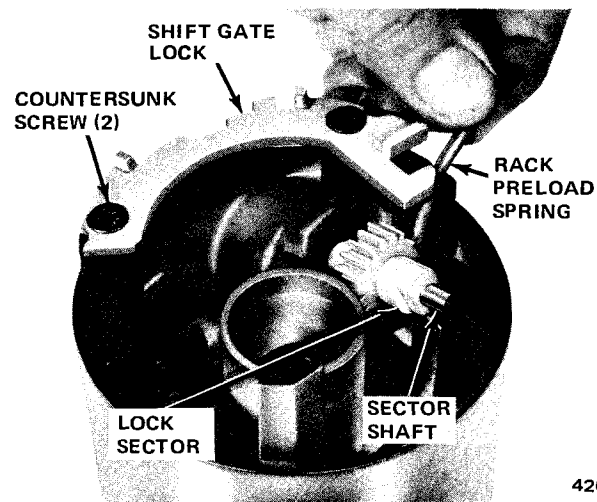

Fig. 2J-28 Housing Components
(29) Remove shift quadrant. Quadrant is retained by two clips which must be pried out with small punch (fig. 2J-29).
(30) Remove shift quadrant light cover. Remove screw retaining socket assembly and remove assembly.
(31) Remove shift bowl from column jacket.